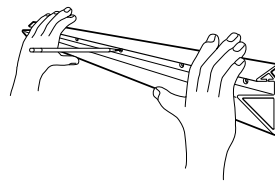

Figure 1
Step 1: Determine shelf location and mark center hole through the wall mounted shelf bracket, as shown in **Figure 1**.